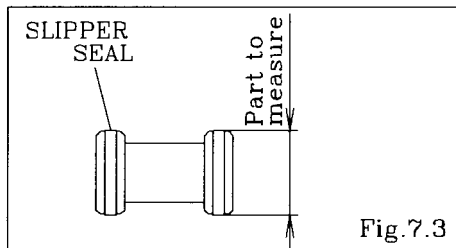

Fig.7.3
- Spool valve assembly [Fig.7.3]